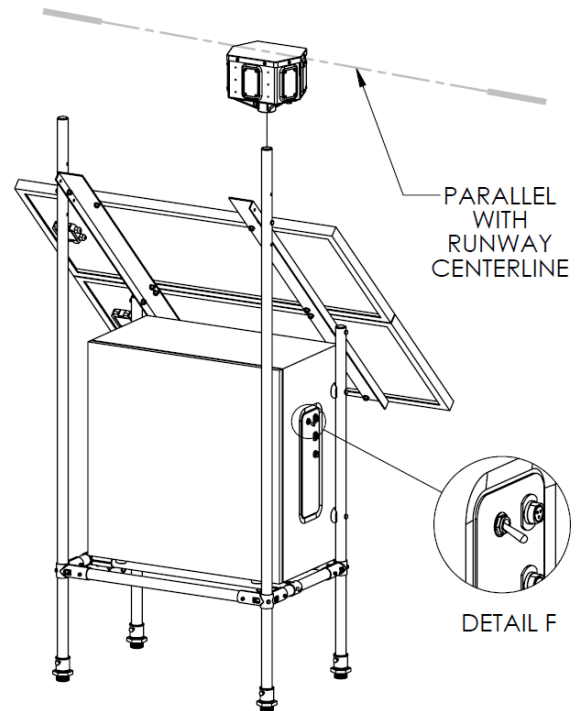
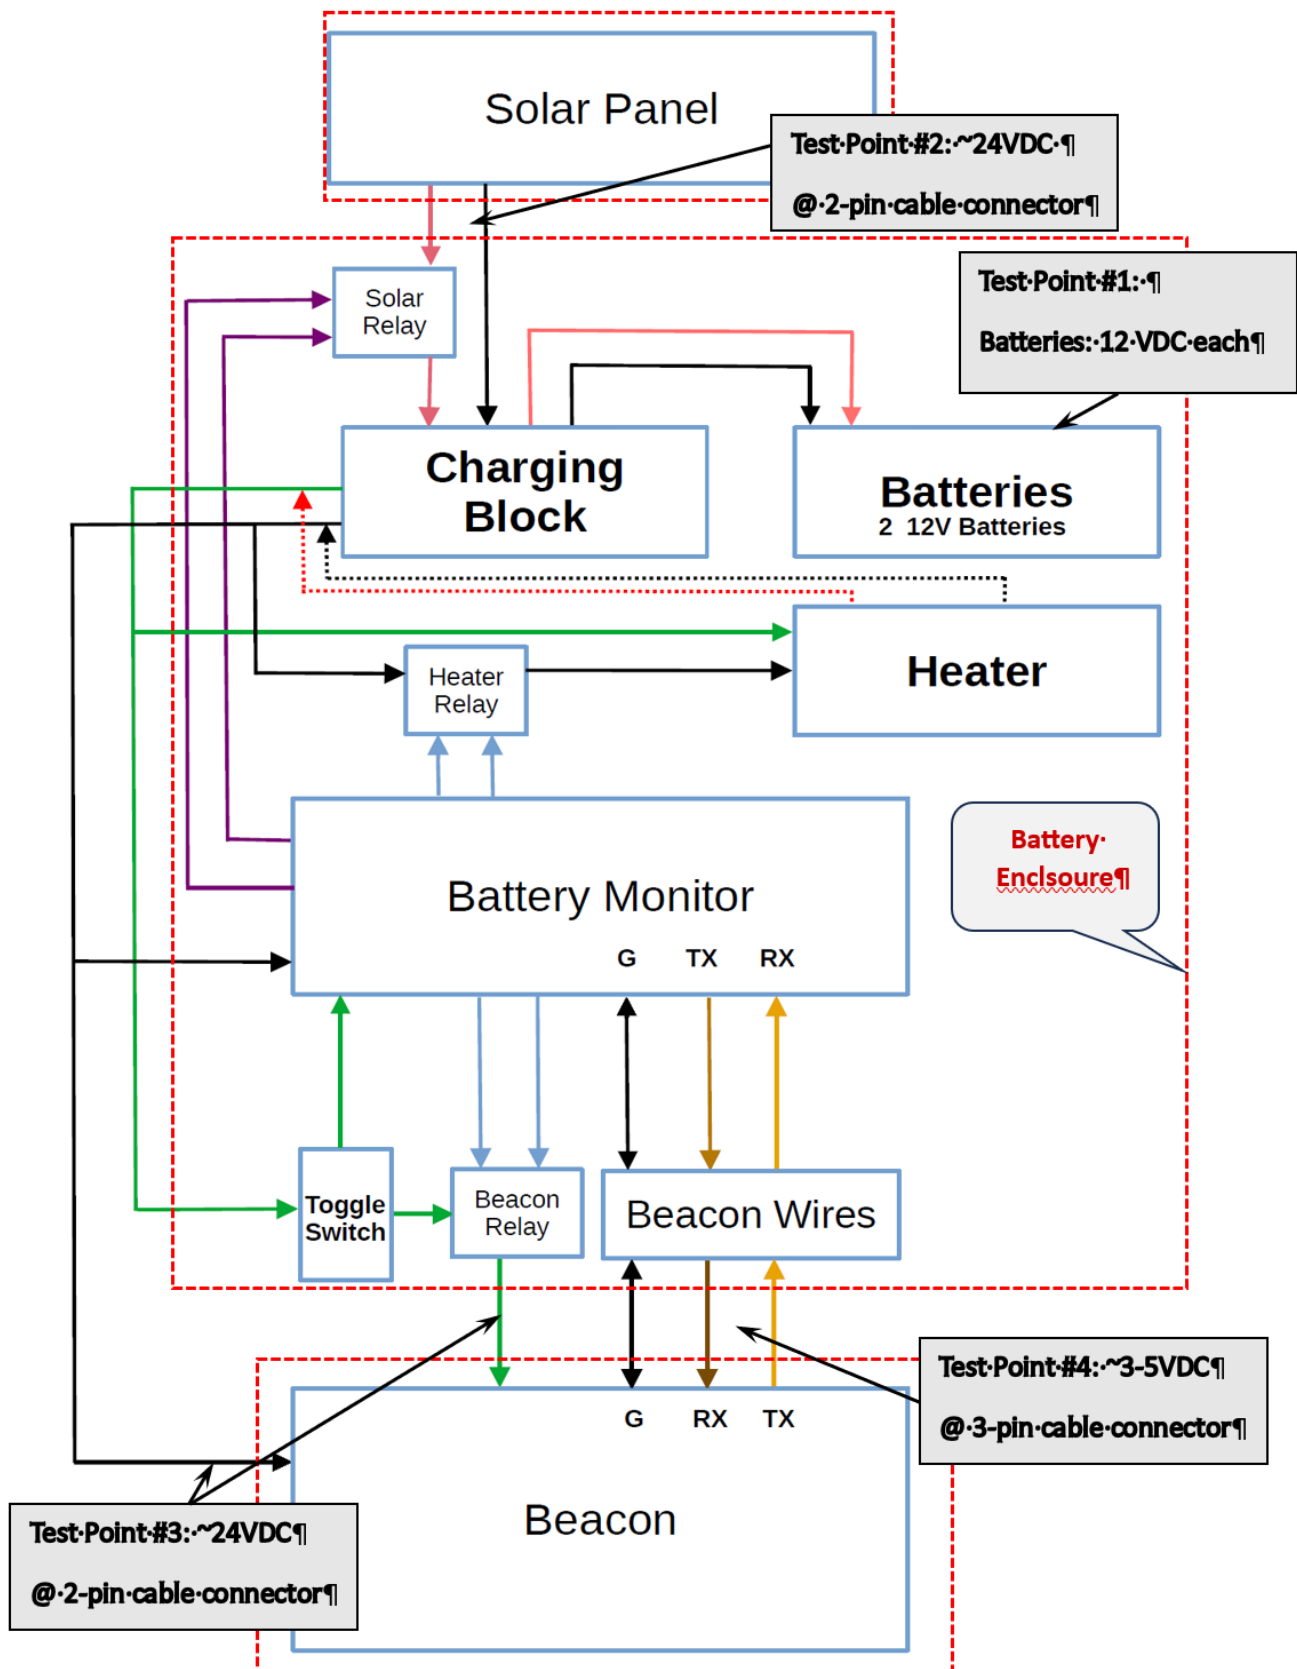

FIGURE 18
Figure 21. Nominal Voltage at Cable Connections
16. Mount the beacon assembly on the top of the 58-inch upright as shown **(FIGURE 18 & 19)**. Orient the
17. Note the difference between the beacon cable assemblies (**Figure 18 & 19**). The beacon power cable connector and its mating connector on the beacon have only 2 electrical contacts (**DETAIL J**), whereas the beacon signal wire harness connector and its mating connector on the beacon 3 contact openings (**DETAIL H**). Install the beacon power wire harness and the beacon signal wire harness to their respective mating connectors on the bottom of the beacon assembly by aligning the notch in each harness connector with the slot in the mating connector on the beacon housing (**DETAIL H**). Push the harness connector into the mating connector as far as it goes, then turn the locking nut clockwise until the harness is fully seated and the locking nut will not rotate any further clockwise (**DETAIL J**).
Route the power and signal wire harnesses as shown (**FIGURE 21 & 22**), using cable ties to fasten the harnesses to the beacon assembly structure. Be sure to make drip loops in each wire harness, as shown (**FIGURE 21**). To prevent possible water ingress into the battery enclosure, the drip loops **MUST** be lower than the cable entry point into the battery enclosure. Connect the power and signal wire harness connectors to their mating connectors on the battery enclosure as in step 17.
19. The voltage test points (**Illustration 1**) are required voltages for the sustained continuous operation of the unit. The electrical connections of the complete system are illustrated (**FIGURE 21**). The cable connections between each of the major components is illustrated. The function of each end of the cable connection offers a test point to confirm the proper performance of each major component. The solar panel voltage is directly proportional to the intensity of sunlight striking the surface of the panel. The switch located on the side of the battery enclosure controls the energization of the complete unit (**FIGURE 18 - DETAIL F**). **ENSURE THE POWER SWITCH LOCATED ON THE SIDE OF THE BATTERY ENCLOSURE IS IN THE UP/ON POSITION** These test point voltages are key to any trouble shooting efforts that maybe required.